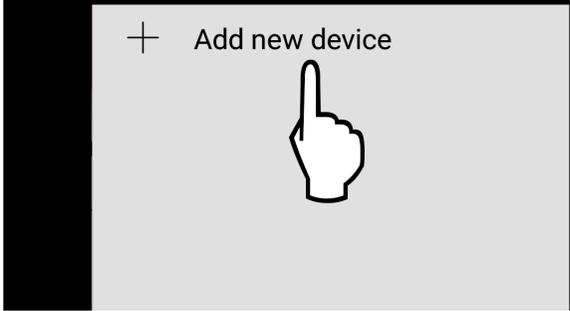

Figure 16. Add New Device
1. In the iPhone mobile app, press the menu button  located at the top right corner of the screen, then press "+ Add new device". See **Figure 16**.